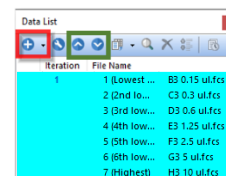

Figure 1 - Order the data list with the lowest titration at the top and the highest at the bottom.
- 2.) Add data files to the data list by clicking on the blue plus icon (Figure 1 – red box) or by dragging the data files into the data list.
*Note - If data files need to be reordered in the data list the up and down arrows can be used (Figure 1 - green box) or files can be dragged to the appropriate place in the list.